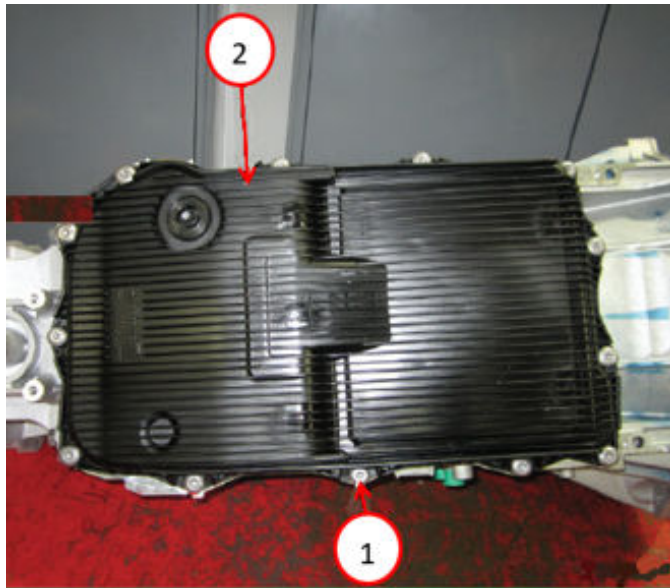

Fig. 7
11. If equipped, disconnect the Hydraulic Impulse Oil Storage (H.I.S) connector Fig. 7.